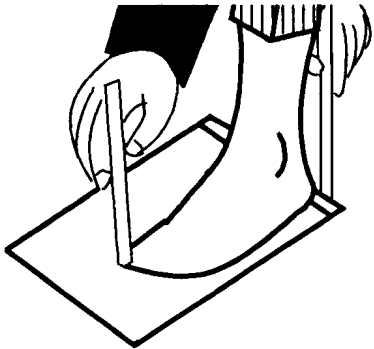

FIGURE 1
a. Patient stands with weight evenly distributed on both feet, at eye level. Tracing is made on this form as indicated in figure 1 above.
(1) BALL MEASUREMENT. The fabric tape is passed beneath the ball of the foot, passing over the medial surface of the metatarsophalangeal joint, great toe, and the lateral aspect of the metatarsophalangeal joint fifth toe.
(2) WAIST MEASUREMENT. This is taken behind or proximal to the ball, where the foot narrows down and the tape wraps easily into the medial concavity.
(3) INSTEP MEASUREMENT. Should be taken just proximal to the midtarsal joint, and the distal to the cuboid bone or straight through the talus.